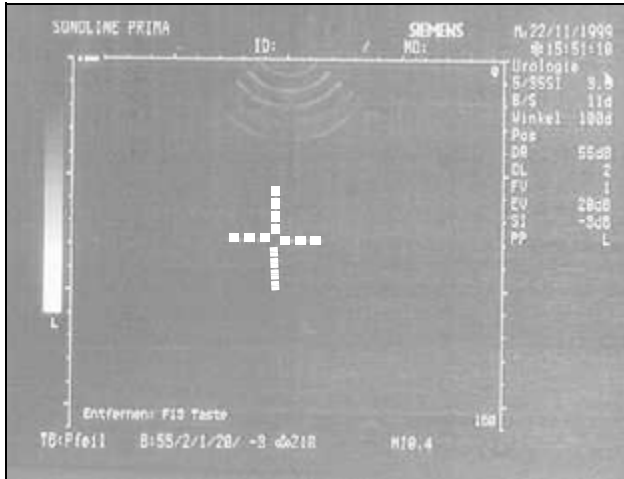

Fig. 45: MODULARIS cross 01
- A cross (Fig. 45 / p. 42) is displayed when selecting a probe.